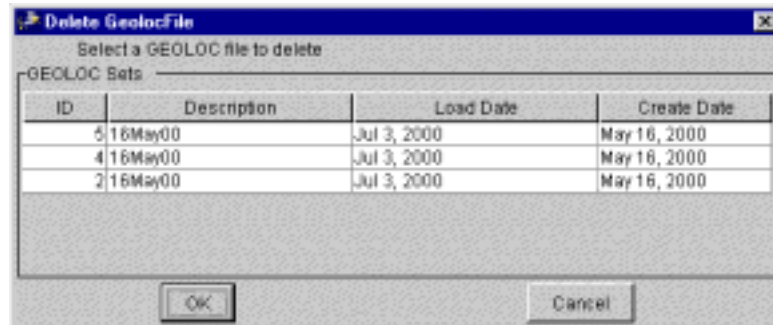

Figure 5.181 Delete GeolocFile Window
1. On the ETEdit (main) window, on the Reference menu, click GEOLOC FILE>Delete GEOFILE. The Delete GeolocFile window opens (Figure 5.181).